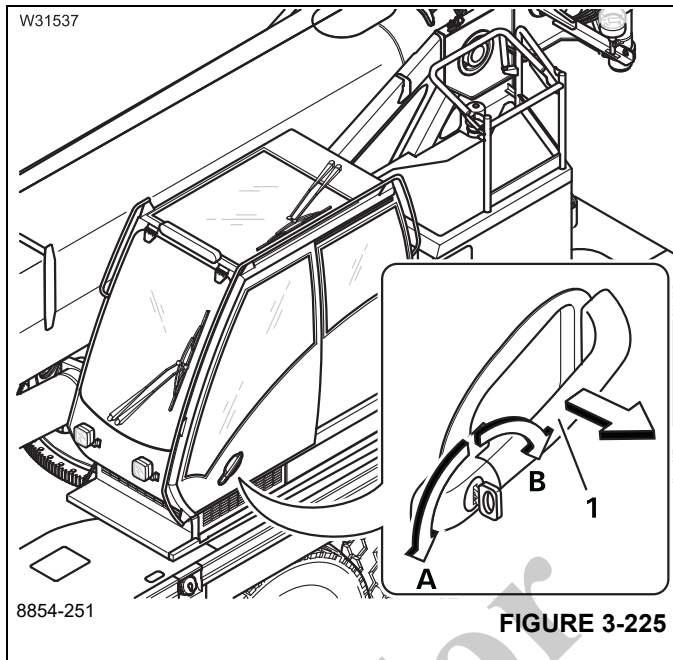

FIGURE 3-225
- Turn the key in direction A (Figure 3-225).
- Pull the handle (1).